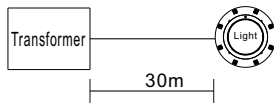

Figure 2
7. The cables connecting the lights and the transformers must be at least 6mm2 and the distance between them must not exceed 30m (Figure 2); otherwise the lights will not function properly.